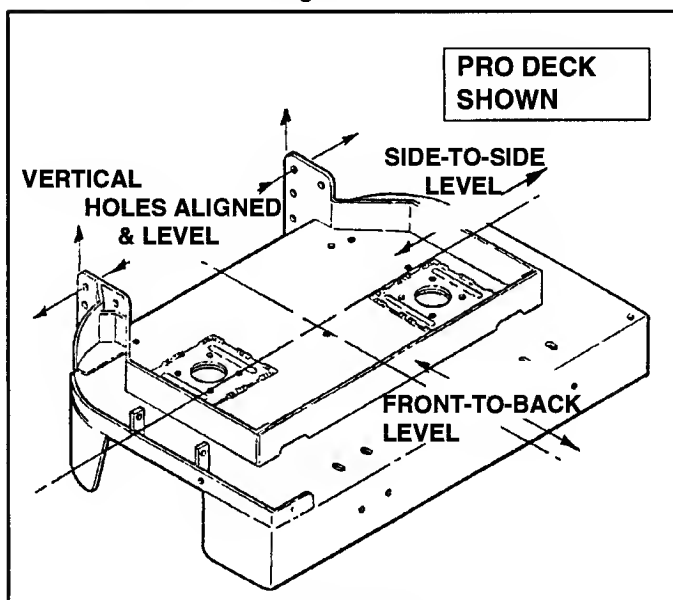

FIGURE 5.22
2. As the deck is being straightened, frequently check the "level" "vertical" and "alignment" points as shown in Figure 5.22.